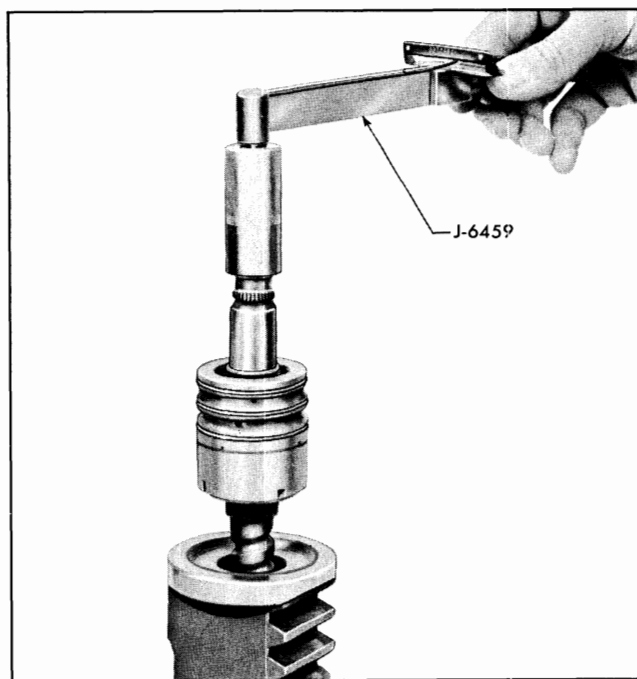

Fig. 9A-28 Checking Worm Preload
1. Assemble lower thrust bearing and races on worm (Fig. 9A-29).